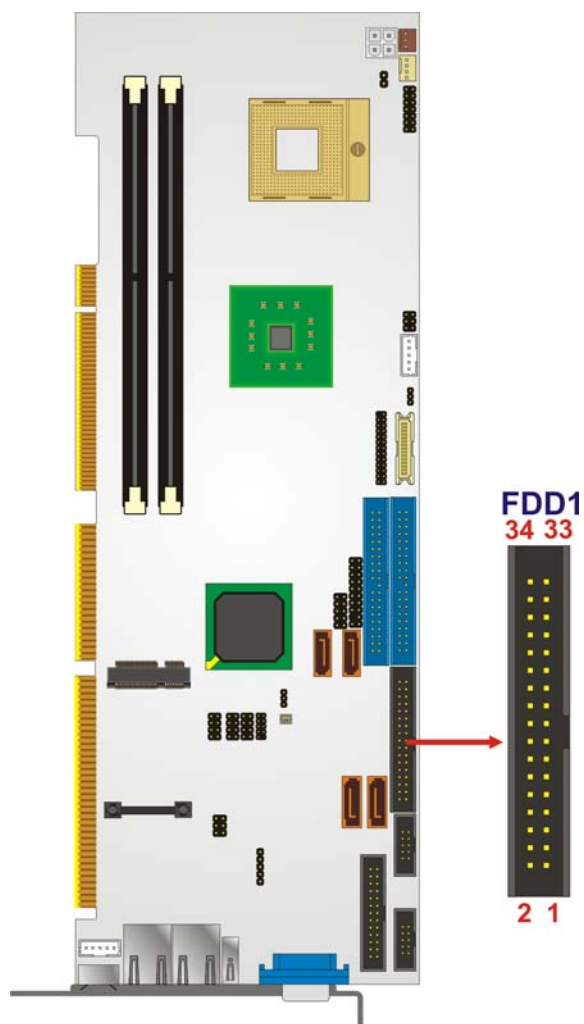

Figure 4-8: FDD Connector Location
- CN Location:** See **Figure 4-8**